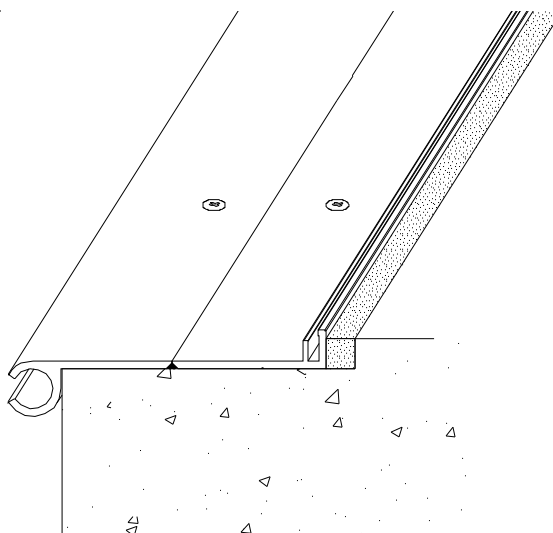

Figure 10
**STEP 11.** Place grout (by others) continuously between the base members and the blockout (see Figure 10) . Install the grout in accordance with the grout manufacturer's written instructions. Remove all excess grout from the exposed surfaces of the aluminum extrusions before the grout sets up.